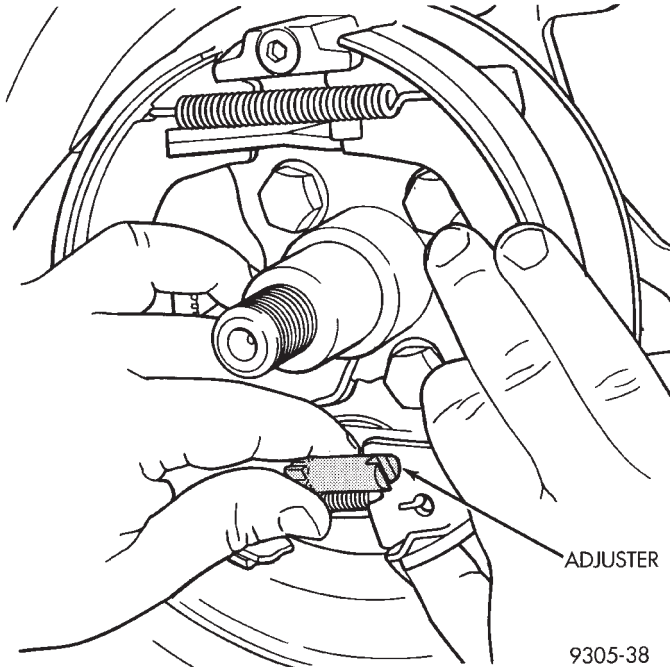

Fig. 151 Park Brake Shoe Adjuster Assembly
(7) Turn brake shoe adjuster wheel until adjuster is at shortest length.
(8) Remove adjuster assembly from the parking brake shoe assemblies (Fig. 151).
- (5) Install brake shoe adjuster assembly with star wheel rearward (Fig. 151).